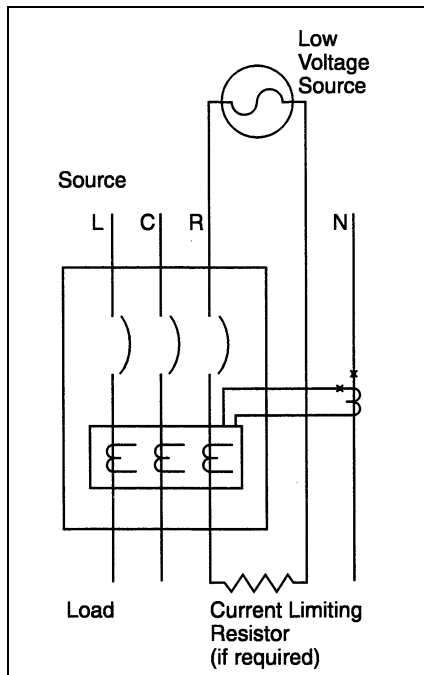

Fig. 7-1a Connections for Ground Fault Test
- 7.3.4 Using a low voltage (0-24V), high current, AC source, apply a test current of 125% of the ground fault pick-up setting through one phase of the circuit breaker, as shown in Fig. 7-1a. This should cause the breaker to trip in less than 1 second, and if an alarm indicator is supplied, it should operate. Reset the breaker and the alarm indicator. Repeat the test on the other two phases.